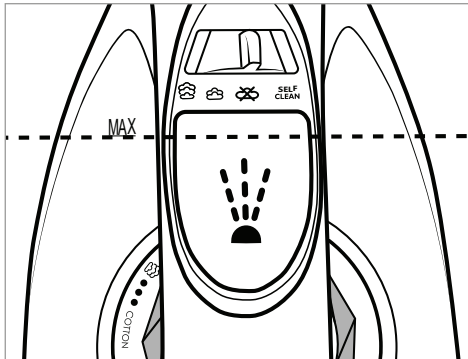

Fig. 1
- 3) Use the measuring cup **11** to fill the water tank ↙ **2** up to no more than the **MAX** marking (see fig. 1).